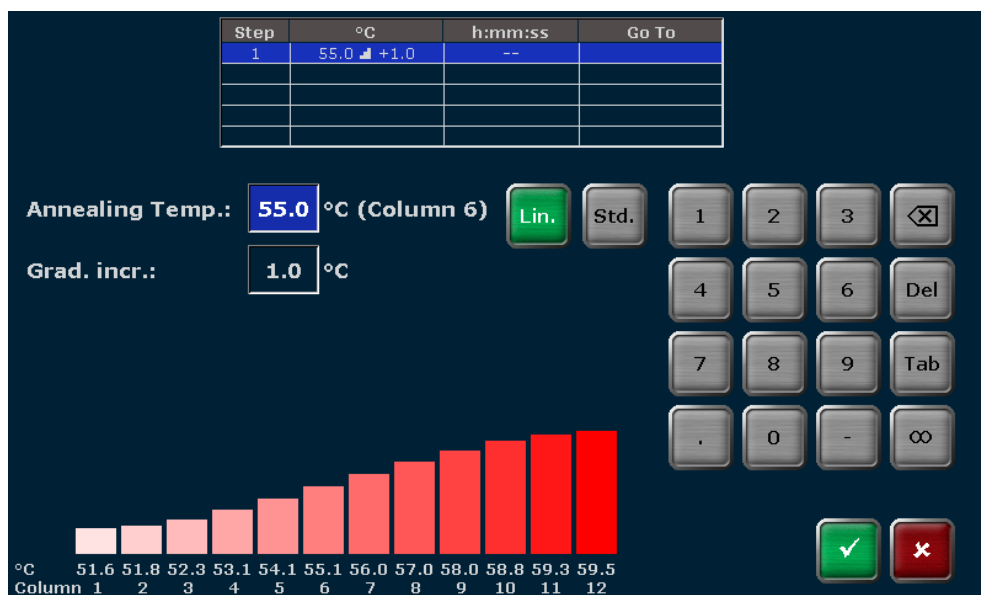

Fig. 31 Linear Gradient Tool screen (Biometra TAdvanced Mono)
There are two options to program a gradient. To toggle between the two options, press the corresponding button on the Biometra TAdvanced gradient programming screen (see Fig. 31):
To program a gradient using the Linear Gradient Tool, enter the desired annealing temperature (ANNEALING TEMP.) and define a temperature increment (GRAD INCR.) between the individual columns of the sample block. The effective temperatures for all the other columns are automatically calculated and displayed as a bar chart (see Fig. 31).
**Note:** The annealing temperature is set for a specific column in the sample block. For example, the annealing temperature in a 96 well sample block corresponds to the temperature in column 6. The column number is indicated in parenthesis next to the corresponding input field (see Fig. 31).